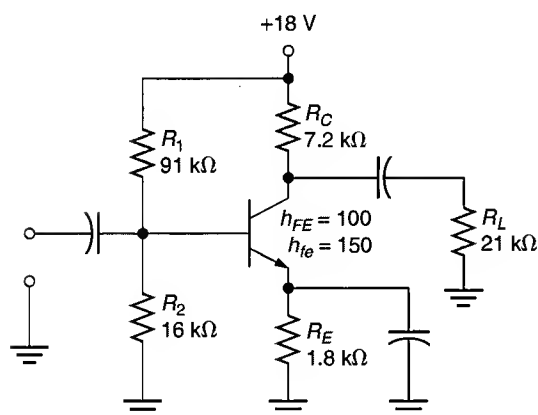

FIGURE 9.32
11. Derive the ac equivalent circuit for the amplifier shown in Figure 9.32. Include all component values.
21. Determine the value of A_v for the amplifier in Figure 9.32.
23. The amplifier in Figure 9.32 has a 12 mV input signal. Determine the value of v_{out} for the circuit.
27. Determine the value of A_p for the circuit shown in Figure 9.32. Assume that the circuit has a value of $A_i = 31$.
33. Calculate the open-load voltage gain for the circuit shown in Figure 9.32.
37. Determine the values of $Z_{in(base)}$ and Z_{in} for the amplifier in Figure 9.32.